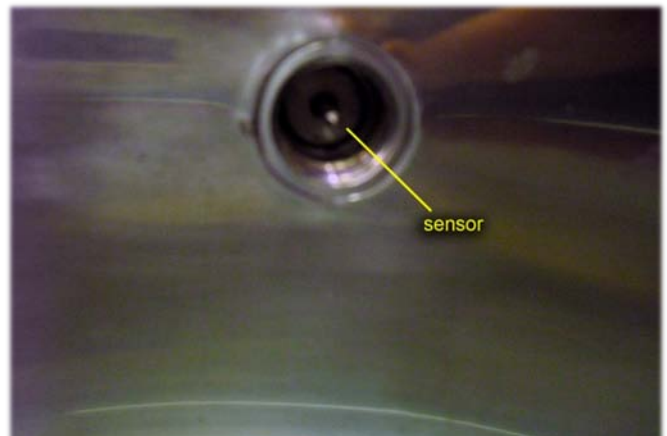

Figure 6
1. If the unit is being used properly and Error 9 appears, the sensor in the chamber wall (see Figure 6) may be defective.